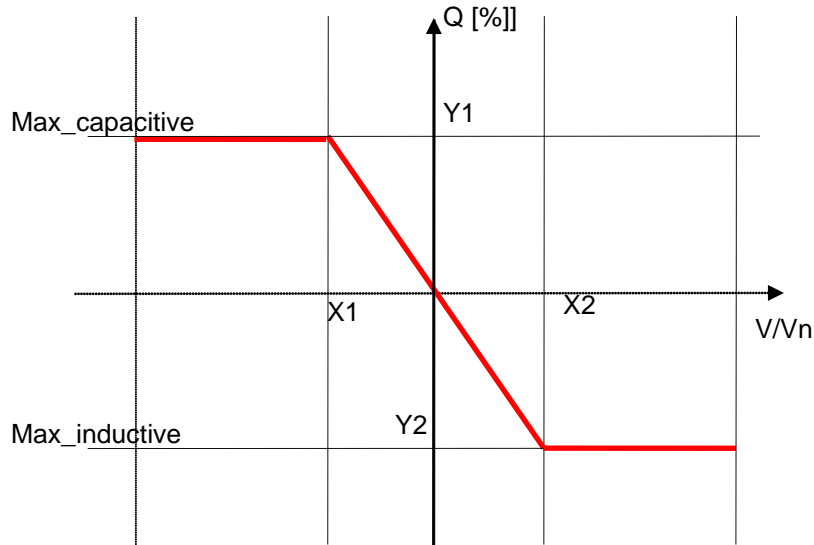

Figure 3: Q(U) characteristic
Active	Only if P300 =7, Reactive Power defined by Q(U) characteristic (Figure 3).
Function	Coordinate "X1" in Figure 3. If V/Vn < X1, the reactive power is defined by "Y1", otherwise it is defined by the loop line.
Function	Coordinate "Y1" in Figure 3. It defines the maximum value of Q when V/Vn < X1.
Function	Coordinate "X2" in Figure 3. If $V/V_n > X2$, the reactive power is defined by "Y2", otherwise it is defined by the loop line.
Function	Coordinate "Y2" in Figure 3. It defines the maximum value of Q when $V/V_n > X2$.
Function	Point of the characteristic Q(U) where the reactive power is null. The reactive power is null between V1s and V1t I, see Figure 3.